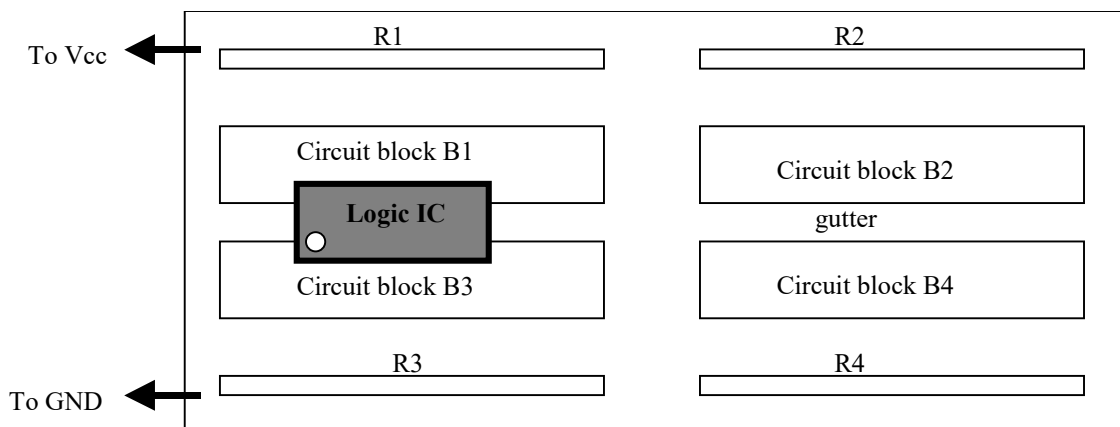

Figure 1 A typical bread board with a mounted IC
- 2.1 Figure 1 shows a logic IC mounted on a typical prototype circuit board which is also commonly known as a “bread board”.
- 2.3 There are also **four circuit blocks (B1, B2, B3 and B4)** on this circuit board. Within each circuit block, each column of holes are internally connected. However, different columns are not connected to one another. The four circuit blocks are also not connected to one another. **An IC should be mounted such that it sits across the gutter between two circuit blocks** as shown in Figure 1. **All the metal pins** on the IC should be **fully inserted into the holes** to ensure proper contacts.